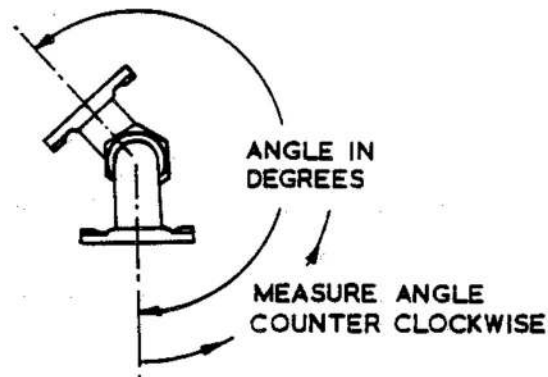

Fig. 5 End view of angular relationship
Measuring angular relationship (fig. 5 to 9)
7. Sometimes known as the position angle, the angular relationship of elbow fittings is measured in a counter-clockwise direction between the centre lines of the two end fittings while the nearest end fitting is held with its centre line vertical (fig. 5).
17 Adjustments may be necessary, before completion of the hose assembly, to obtain the desired angular relationship between two elbow fittings (fig 5).